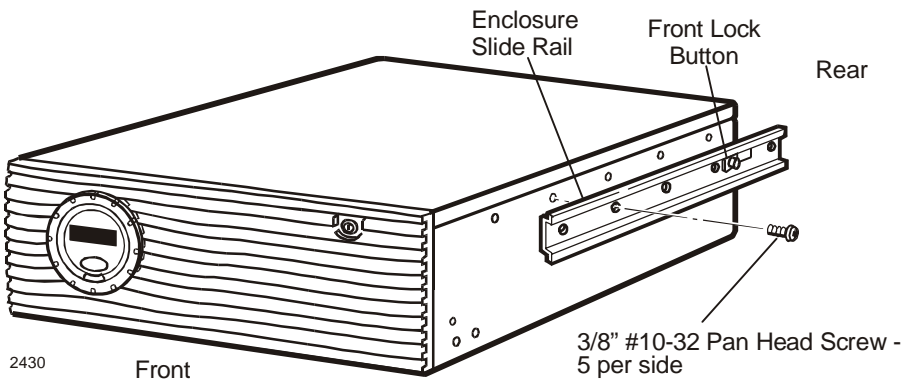

Figure 18. Disk Enclosure Rack Mount Components
5. Install one enclosure slide rail on each side of the disk enclosure, as shown in Figure 18. Position the lock button assembly close to the rear of the disk enclosure. Use five 3/8" #10-32 pan head screws to secure each enclosure slide rail to the disk enclosure.